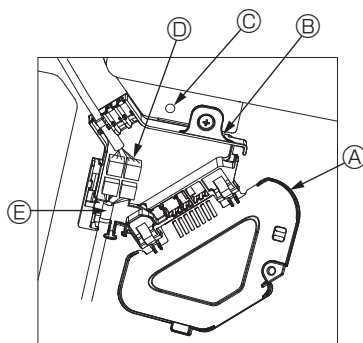

Fig. 6-9
- ① Remove the one screw securing the connector box cover, slide the cover in the direction indicated by the arrow as shown in the diagram, and then open the cover.
- ② In the connector box, locate the junction wire for the vane motor of the grille and the wire for the vane motor, and then connect the wires. (Fig. 6-9)